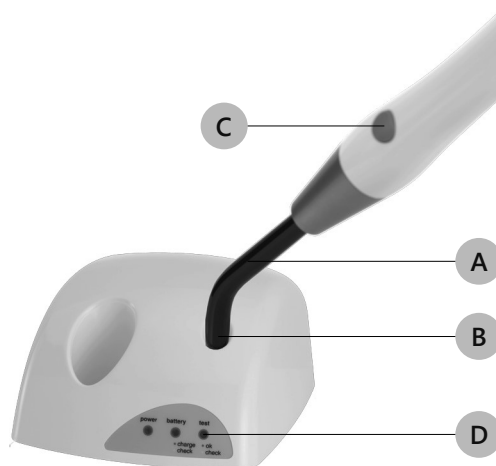

Figure 8 – Light Intensity Measurement
1. Place the optical fibre tip (Figure 8 at page 18 - Ref. A) flat, on the surface of the light-intensity sensor without pressing it (Figure 8 at page 18 - Ref. B);
2. Press the on/off button (Figure 8 at page 18 - Ref. C) to switch on the lamp.
The test LED (Figure 8 at page 18 - Ref. D) will indicate the measured light-intensity: